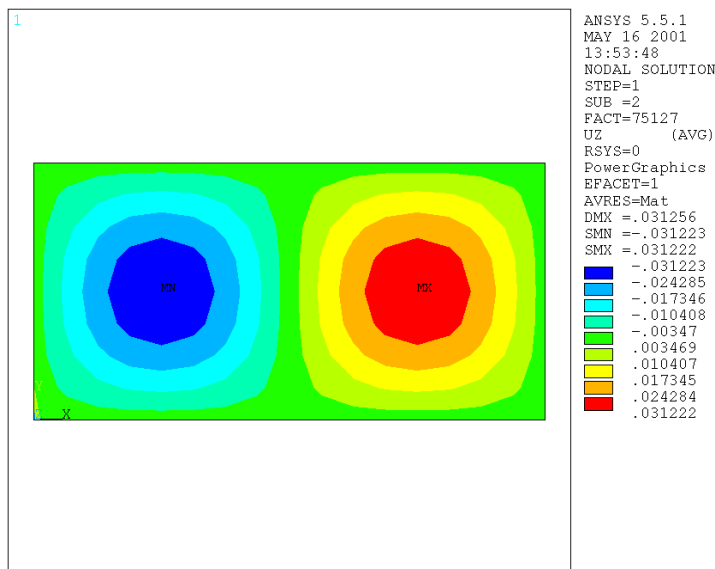

Figure 7.2
4. In the left box select 'DOF solution', and in the right box select 'Translation UZ', then click 'OK'. Figure 7.2 shows the results; the plate buckles in mode 2 as expected.